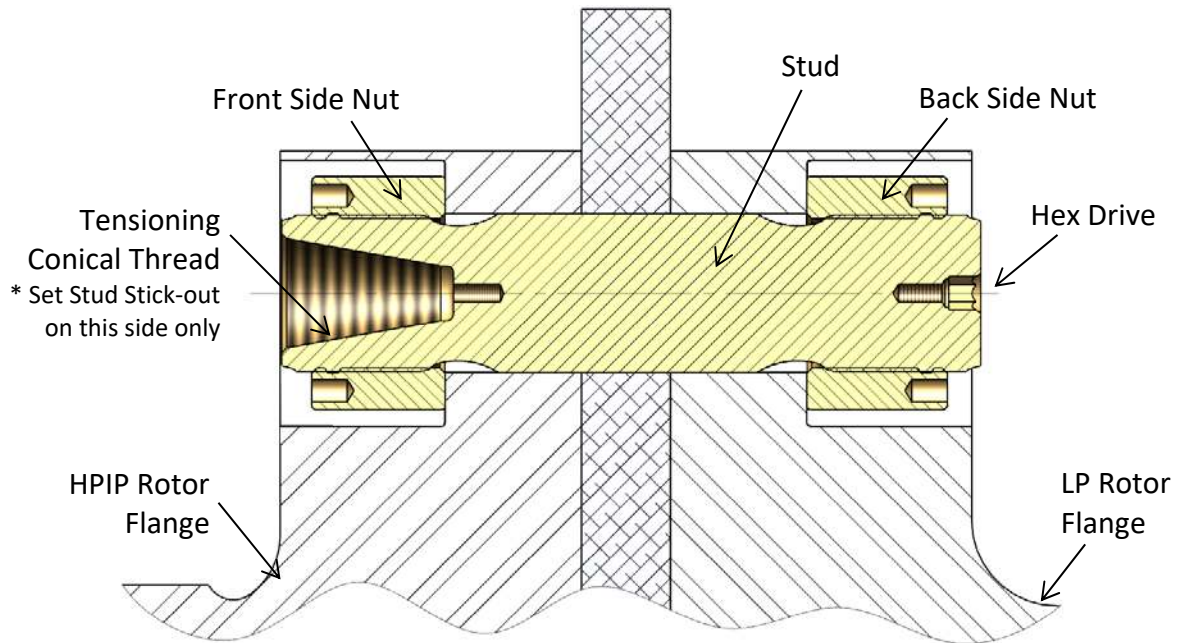

Figure 6A – Cross-section View of Steam Turbine HPIP Rotor to LP Rotor Bolted Flange Connection
4. Slide the stud and cylindrical nut assembly into the flange as shown in Figure 6A.